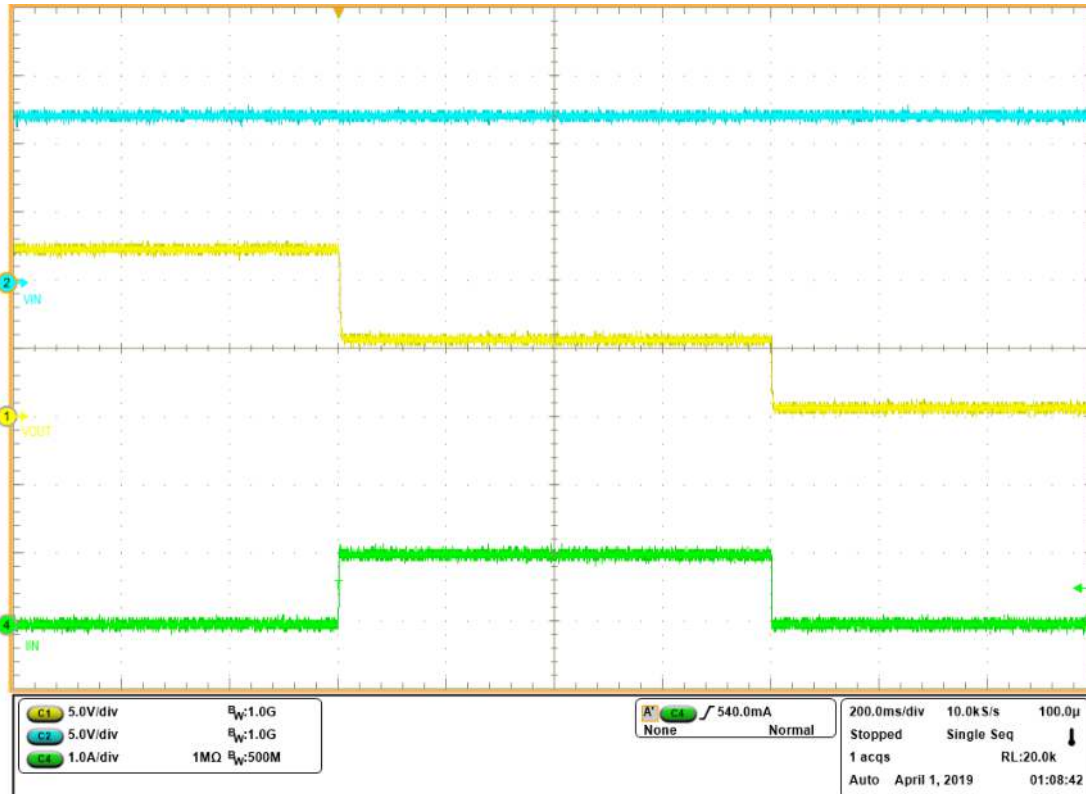

Figure 4. J11 = 3-4, Current Limit (1.0 A) Test with Latch (CH2)
- Set the output load at  $5.0 \Omega \pm 0.5 \Omega$  on CH2 and then enable the load. Turn on the VIN2 power supply and verify that input/output current is limited as per the setting in Table 9. Verify the device is in latched-off mode and that the FLTb2 RED LED (D5) turns ON as shown in Figure 4. The level of the current pulse should match with the load current limit (based on the respective jumper setting) as shown in Table 9.